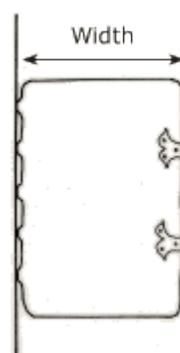

FIGURE 6
5). It is good practice to make measurements at several points and use the widest of these measurements. Remember to count the protrusions of raised bands or clasps as part of the width of the book (Figure 6).
Using a straight-edge and bone folder, crease the polyester straight across connecting the dents as illustrated (Figure 6). Broken lines represent creases.